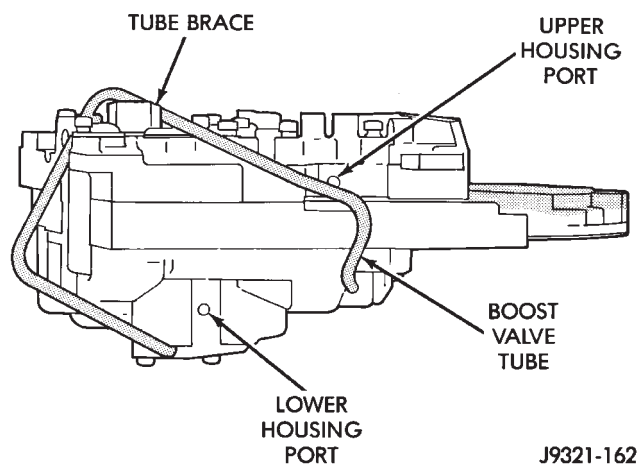

Fig. 121 Boost Valve Tube Installation—46RH
- (1) Position valve body assembly so lower housing is facing upward (Fig. 121).
- (2) Lubricate tube ends and housing ports with transmission fluid or petroleum jelly.
- (3) Position tube behind tube brace (Fig. 121).
- (4) Start tube in lower housing port first. Then swing tube downward and work opposite end of tube into upper housing port (Fig. 121).
- (5) Seat each end of tube in housings.